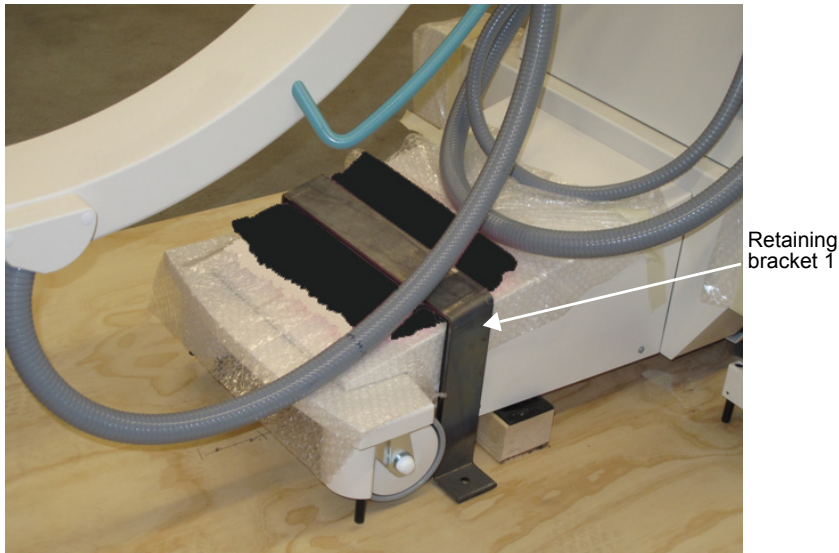

Fig. 13-8 Retaining bracket 1 over C-arm stand foot
- Place retaining bracket 1 over the C-arm stand foot as illustrated in *Fig. 13-8*.